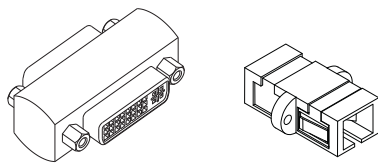

FIG. 26 DVI and SC fiber cable adapters
- **BCS commands:** enter “SL002T”. If “SL002T (1)” appears, the test switch is routed.
- Isolate source/destination equipment and cable problems by patching around the router using a cable adapter (FIG. 26) to check the overall signal path.